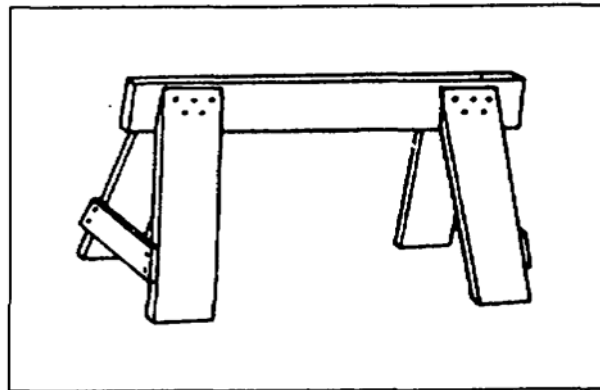

Figure 4-13. Scaffold horse
a. Scaffold Horse. Use a scaffold horse (Figure 4-13) to construct a simple scaffold. Scaffold horses are used in pairs; however, a stairway, porch, or any other stationary object may be used to hold one end of a work platform while a scaffold horse holds the other. Before each use, check the nailing of the horse's legs and braces.